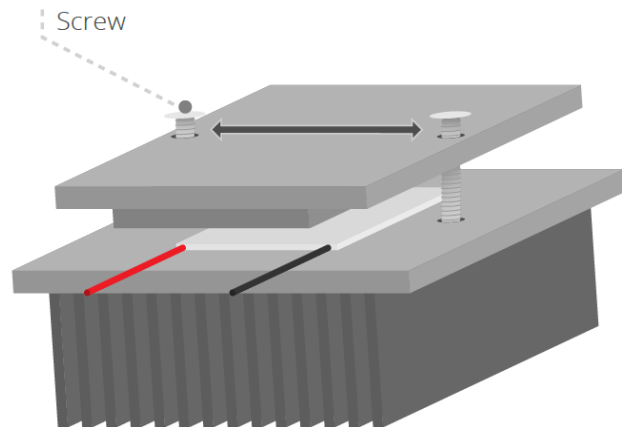

FIGURE 6. ORDER OF SCREW TIGHTENING
- 8) Tighten the screws until the washers are gently held in place. While doing this, to ensure that even force is applied across the module, apply 200 ~ 300 N (for a 40 mm square unit) of pressure to the center of the aluminum block and tighten each of the screws alternately little by little. **(figure 6)**